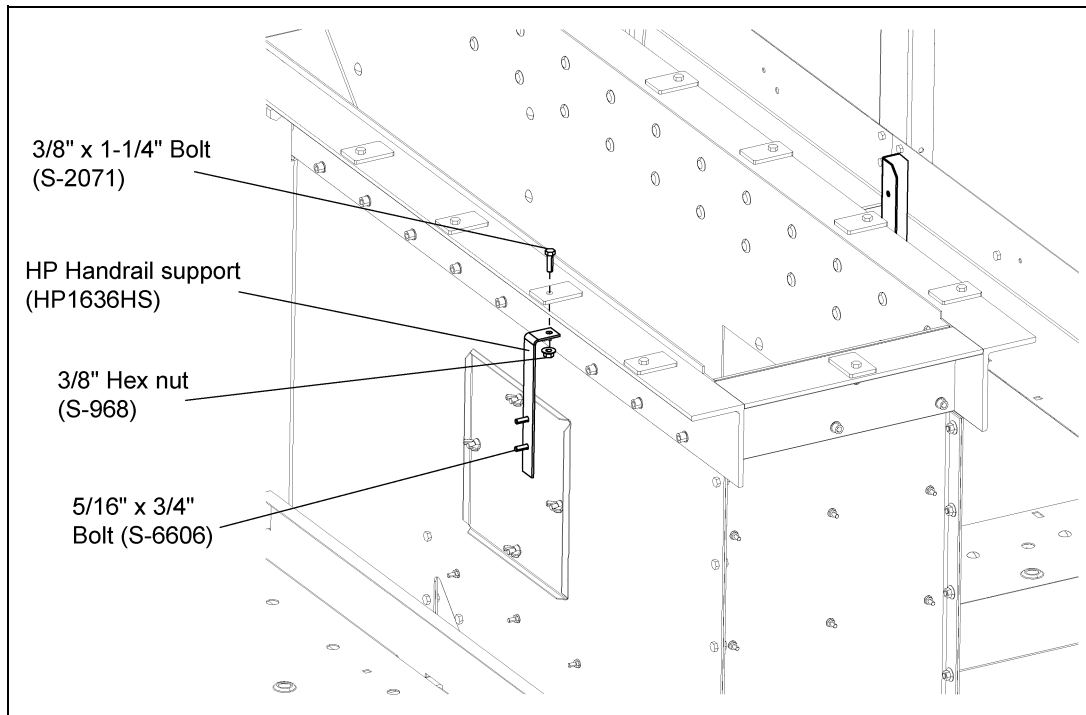

Figure 10E
1. Attach two (2) HP handrail supports (HP1636HS) to lower head using 3/8" x 1-1/4" bolt (S-2071) and nut. (See Figure 10E.)